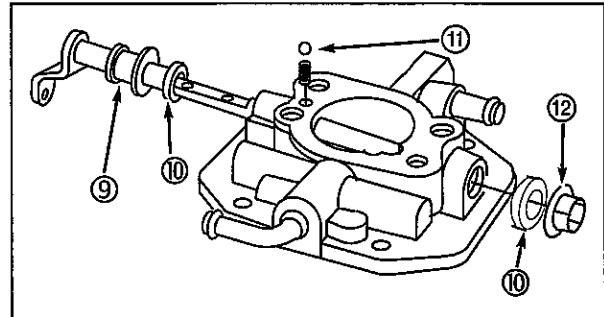

Fig. 108
7. Install new choke shaft seals (10) with sealing lip out, **Fig. 108**.
8. Assemble spacer (9) onto choke shaft.
9. Insert spring and check ball (11) in to spring pocket. Compress with a small round punch.
11. Install retainer (12) to shaft.